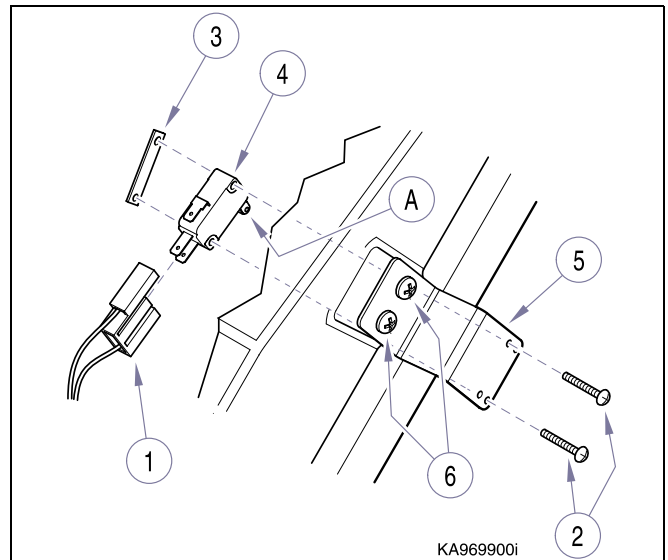

Figure 4-24. Safety Bail Limit Switch.
- (1) Unplug chair power cord.
- (2) Remove covers (refer to para. 4.3).
- (3) Disconnect wire harness (1, Fig. 4-24).
- (4) Remove two screws (2), nut plate (3), and safety bail limit switch (4) from mounting bracket (5).
- (1) Place limit switch (4, Fig. 4-24) on mounting bracket (5) and secure with two screws (2) and nut plate (3).
- (2) Attach wire harness (1).
- (1) Place a light coating of silicon on hydroglide pins (A, Fig. 4-24). Install wheel halves (10) and push nuts (9).
- (2) Place a light coating of silicon on ends of roller shaft (4). Install chairseat rollers (3) and push nuts (2).
- (3) Insert lift bars and roller shaft assembly (7) between wheel halves (10) of hydroglide frame assembly (8).